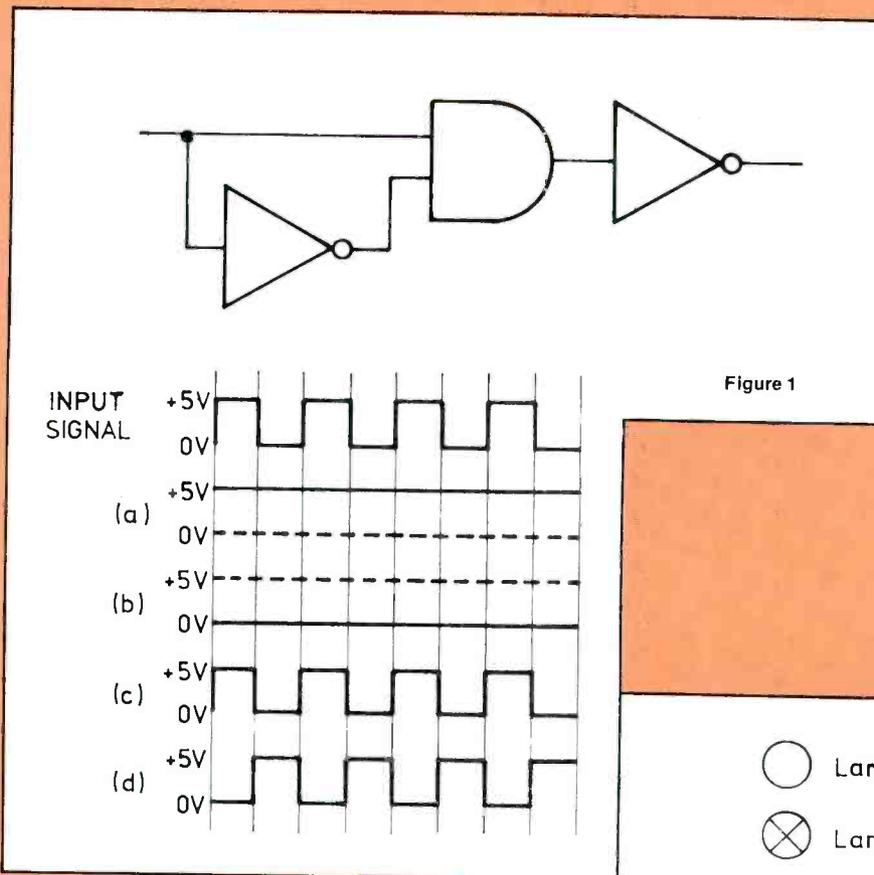

Figure 1
- Figure 1 shows a logic circuit and its input signal. Which of the output signals will result from this input? (Disregard glitches in this circuit.)
- The solid line in Figure 1(a).
- The solid line in Figure 1(b).
- The signal in Figure 1(c).
- The signal in Figure 1(d).